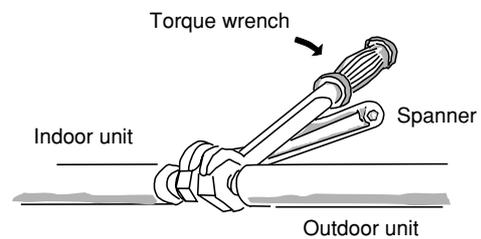

Fig. 6-6
- (1) Tightly connect the indoor-side refrigerant tubing extended from the wall with the outdoor-side tubing.
- (2) To fasten the flare nuts, apply specified torque as at right:
- When removing the flare nuts from the tubing connections, or when tightening them after connecting the tubing, be sure to use 2 monkey wrenches or spanners as shown. (Fig. 6-6)